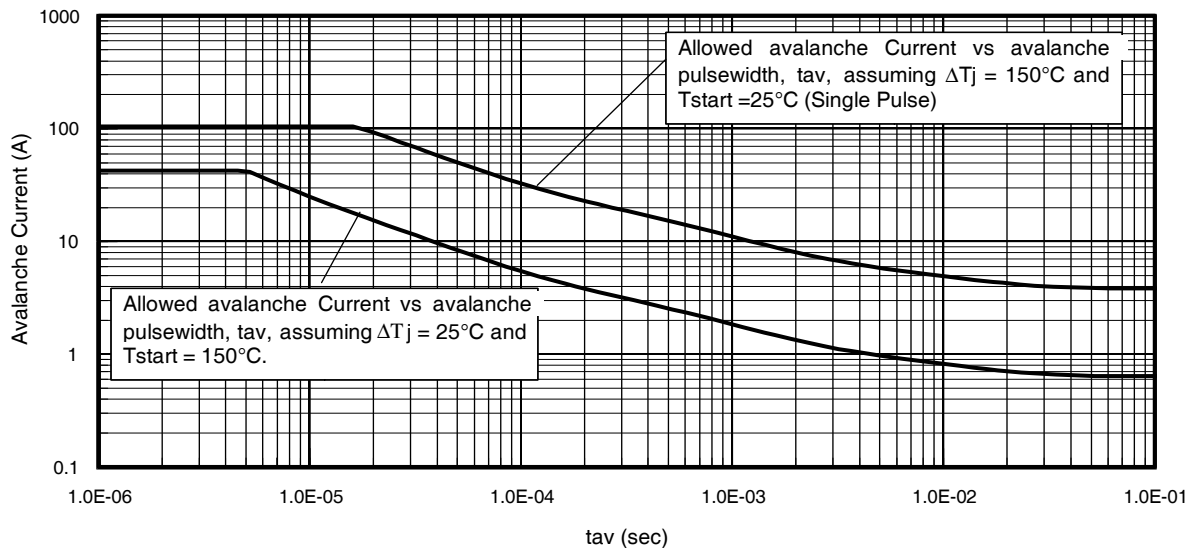

Fig 15. Typical Avalanche Current vs.Pulsewidth
| I_{AR} | Avalanche Current ^② | See Fig 15,16, 23a, 23b | A |
Notes on Repetitive Avalanche Curves , Figures 15, 16:
7. ΔT = Allowable rise in junction temperature, not to exceed T_{jmax} (assumed as 25°C in Figure 15, 16).